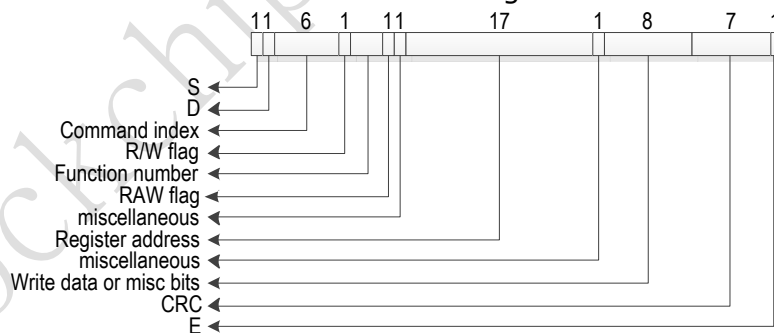

Fig 11-3 Command format for CMD52
- Send ABORT command – Can be used with only an SDIO_IOONLY or SDIO_COMBO card. To abort the function that is transferring data, program the function number in ASx bits (CCCR register of card, address 0x06, bits (0-2) using CMD52. This is a non-data command. For information on sending this command, refer to “No-Data Command With or Without Response Sequence”. The command format for CMD52 is illustrated in Fig. 11-3: